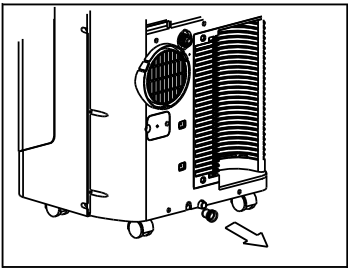

Figure 13
2. When the water level of the bottom tray reaches a predetermined level, the unit beeps 8 times, the digital display area shows "P1". At this time the air conditioning/dehumidification process will immediately stop. However, the fan motor will continue to operate(this is normal). Carefully move the unit to a drain location, remove the bottom drain plug and let the water drain away(Fig.13). Restart the machine until the "P1" symbol disappears. If the error repeats, call for service.